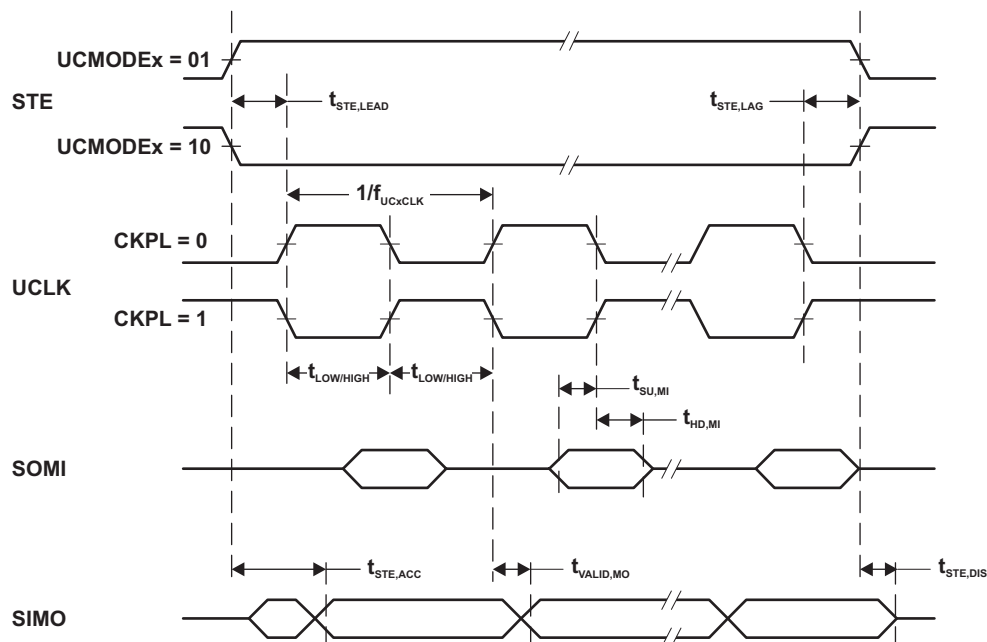
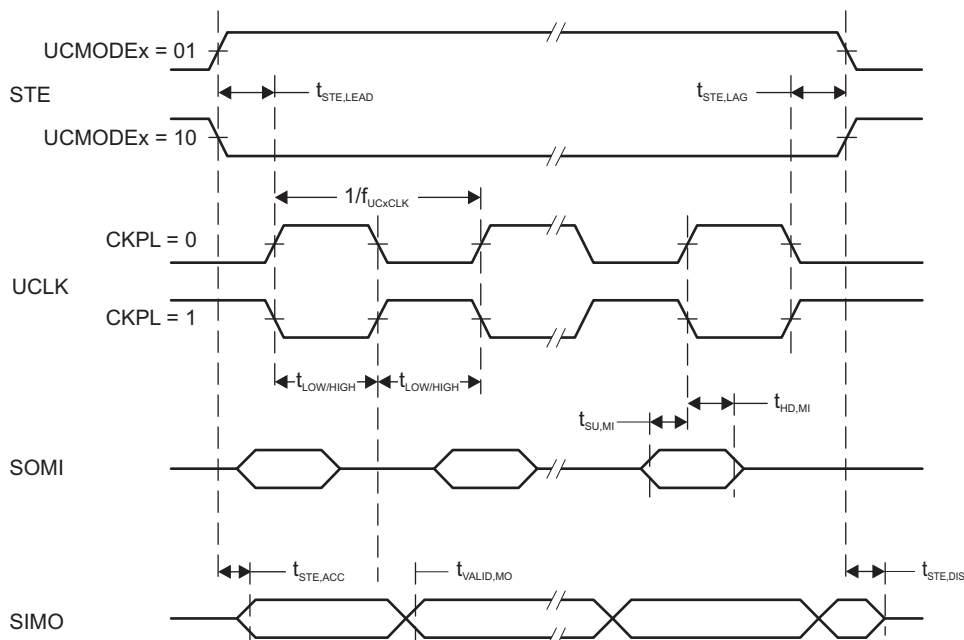

Figure 5-13. BadDriveBacuSPI Master Mode, CKPH = 0
Figure 5-14. SPI Master Mode, CKPH = 1
(2) Specifies the time to drive the next valid data to the SIMO output after the output changing UCLK clock edge. See the timing diagrams in Figure 5-13 and Figure 5-14.
(3) Specifies how long data on the SIMO output is valid after the output changing UCLK clock edge. Negative values indicate that the data on the SIMO output can become invalid before the output changing clock edge observed on UCLK. See the timing diagrams in Figure 5-13 and Figure 5-14.
- (2) Specifies the time to drive the next valid data to the SOMI output after the output changing UCLK clock edge. Refer to the timing diagrams in Figure 5-13 and Figure 5-14.